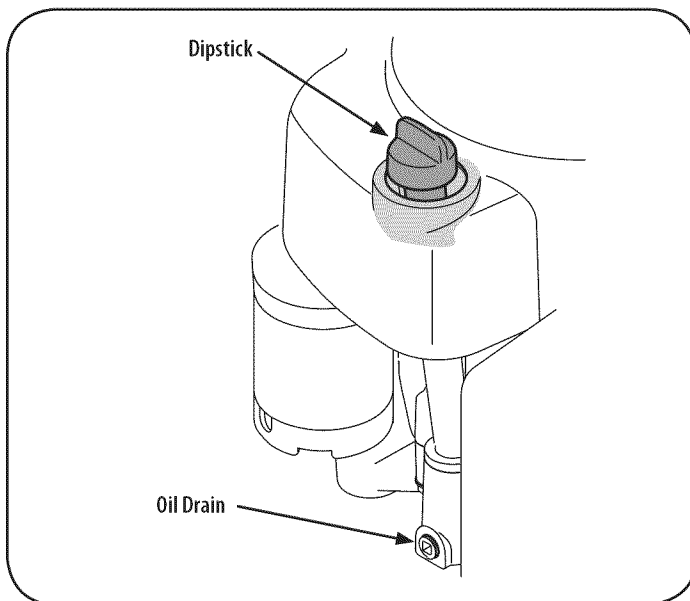

Figure 9
1. Remove the dipstick, see Figure 9, and wipe with a clean cloth.
2. Open the tractor's hood and locate the oil drain port on the right side of the engine. See Figure 9.
4. Remove the oil fill cap/dipstick from the oil fill tube. See Figure 9.